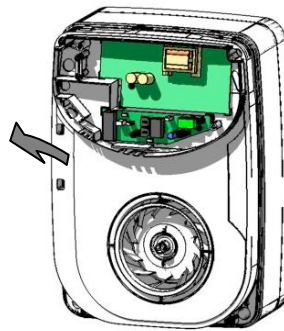
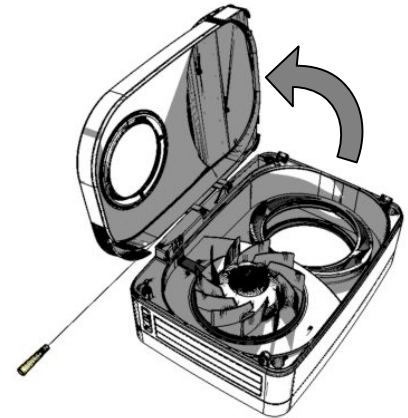

Figure 5.
Figure 6.
- Figure 5 and open Door - Figure 6.